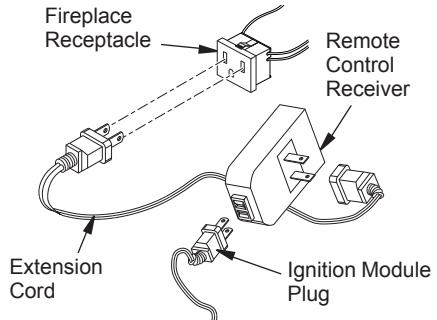

Figure 47 - Installing the WRC Remote Receiver
- WRC model receiver does not require a battery. Receiver can be installed by first plugging short extension cord into fireplace receptacle. Plug receiver unit into extension cord. Finally plug ignition module plug into receiver unit (see Figure 47).